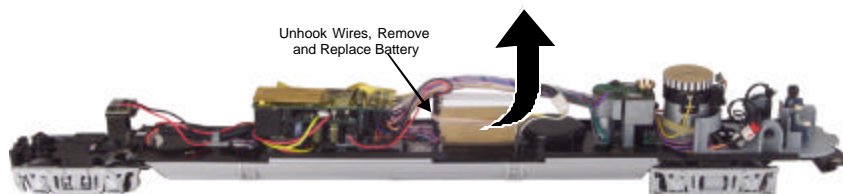

Figure 13. Replacing the Battery
To replace the lights in the Coach Car of your Burlington Zephyr Set remove the shells from the car's chassis by removing the body mounting screw from underneath the car. See figure 13 for locations of screws.
- If the sounds are not improved at the end of the 15 minute test charge, it is time to replace the battery (see figure 13 below). Contact the M.T.H. Parts Department (phone: 410-381-2580; e-mail: [parts@mth-railking.com](mailto:parts@mth-railking.com); mail: 7020 Columbia Gateway Drive, Columbia MD 21046-1532) for a replacement battery. A standard 9v alkaline battery can be substituted until your replacement arrives, but since alkaline batteries cannot be recharged, it will eventually wear down. Do NOT use a 6-cell 7.2v battery like those found in most convenience stores.